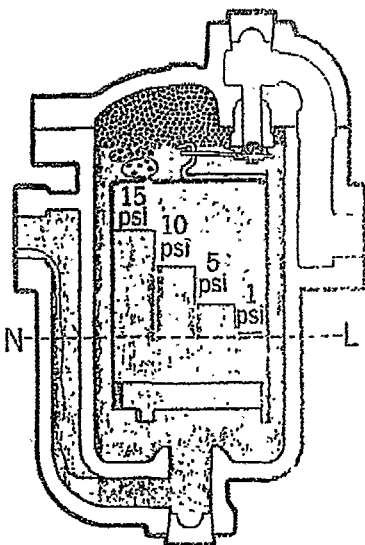

Fig. 3-1. Liquid levels in bucket for opening a $\frac{3}{8}$ " orifice No. 214 or No. 814 trap at working pressures indicated.
Obviously at 15 pounds working pressure differential the full weight of the bucket is not required to open the valve. Instead of the 21 oz. weight to open at 21 psig only a 15 oz. weight is required for 15 psig. Fig. 3-1 shows the water levels in a No. 814 bucket required to open the valve at pressures from 15 psi down to only 1 psi.
3. When entering condensate brings the condensate level slightly above the neutral line the bucket exerts a slight pull on the lever. But the valve does not open until the condensate level rises to the opening line for the existing pressure differential between the steam and the condensate return header. (See Fig. 3-1)